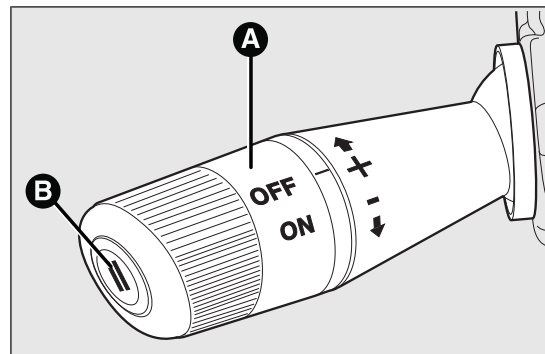

fig. 40
- ☐ turn ring nut A fig. 40 to the ON position and press the accelerator pedal so that the vehicle reaches the desired speed;
- ☐ press button B fig. 40.
- ❑ by pressing button B fig. 40 when the device is adjusting the speed (for versions/markets, where provided);
- ❑ by pressing the accelerator pedal (in this case the system is not actually turned off but the acceleration request takes priority; the cruise control remains activated, without the need to the press button B fig. 40 to restore the previous conditions once the acceleration is over).